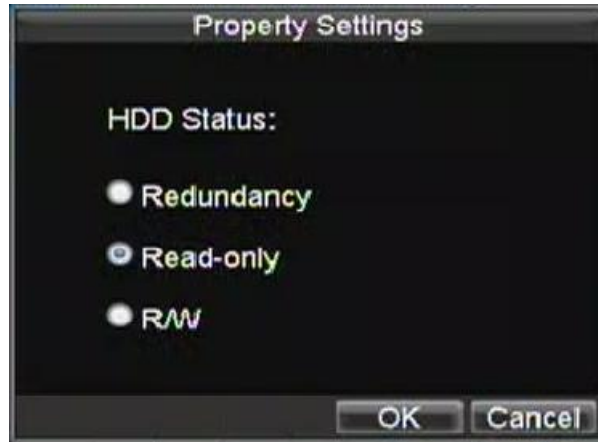

Figure 9. HDD Property Settings Menu
4. Click the Property button. This will take you to the Property Settings menu, shown in Figure 9.